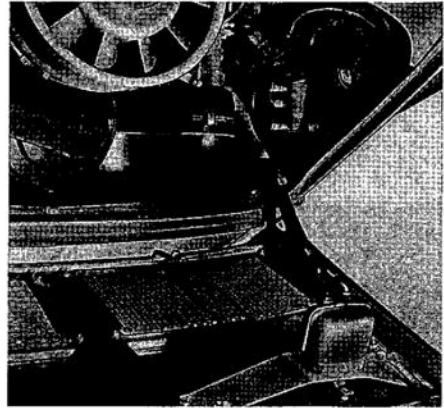

Fig. 28
17. Connect electrical wires (see Fig. 28):